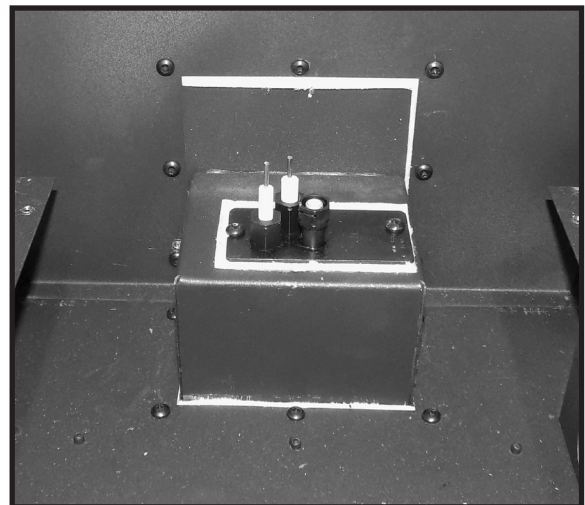

Figure 60: Control panel front side screws.
9. Remove the two Philips screws securing the pilot head assembly to its support (Figure 60).
10. Remove all of the screws surrounding the support. These include screws on the floor in front of the support and on the wall behind the support (Figure 60).